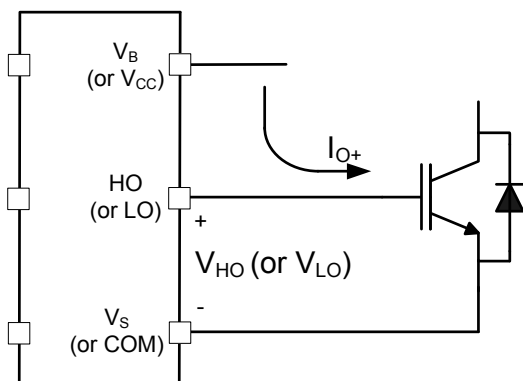

Figure 1: HVIC sourcing current
The IRS233(2,0)(D) HVICs are designed to drive up to six MOSFET or IGBT power devices. Figures 1 and 2 illustrate several parameters associated with the gate drive functionality of the HVIC. The output current of the HVIC, used to drive the gate of the power switch, is defined as  $I_O$ . The voltage that drives the gate of the external power switch is defined as  $V_{HO}$  for the high-side power switch and  $V_{LO}$  for the low-side power switch; this parameter is sometimes generically called  $V_{OUT}$  and in this case does not differentiate between the high-side or low-side output voltage.